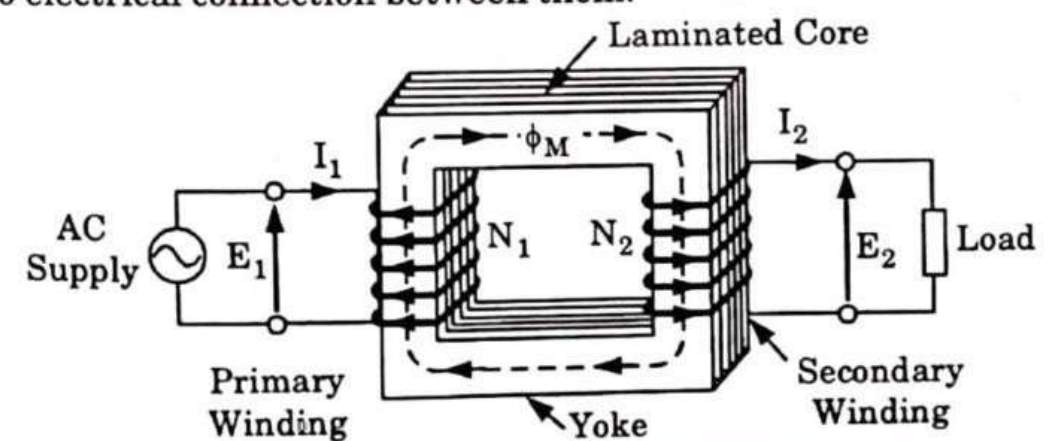

Fig. 3.7.1. Arrangements of a transformer.
1. Consider two coils 1 and 2 wound on a simple magnetic circuit as shown in Fig. 3.7.1. These two coils are insulated from each other and there is no electrical connection between them.
- The mean path of this flux is shown in Fig. 3.7.1 by the dotted line.